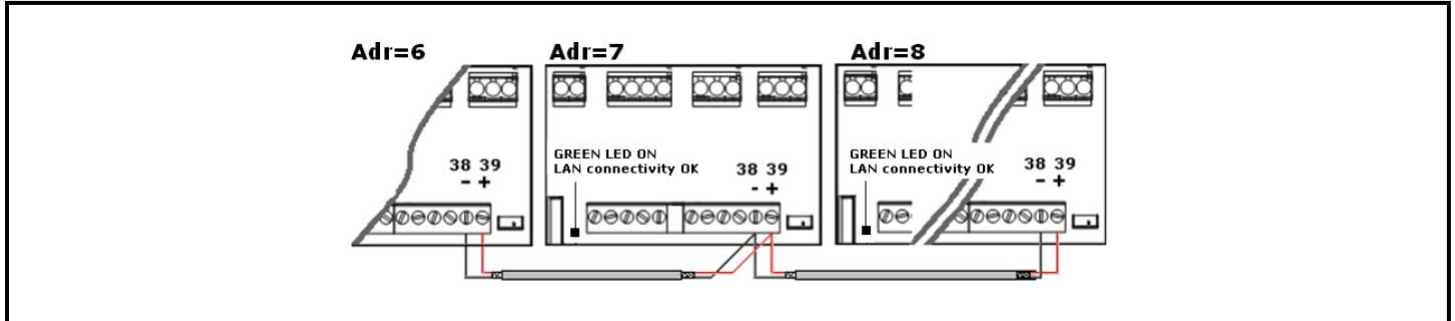

Figure 4-3 - LAN Connection
1. Connect a shielded cable between terminals 38 [-] and 39 [+] for a **maximum of eight (8) sections**.
2. The **Adr** parameter is the number that identifies each electronic board. *Address duplication is not permitted*; in this case, synchronized defrost and the communication with the monitoring system are not guaranteed (the **Adr** is also the MODBUS address). See **Figure 4-3** for an example of a properly configured LAN connection: